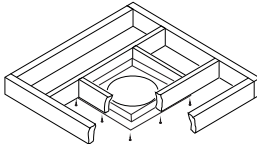

Figure 20 - Installing Firestop
1. Cut a 10" square hole in the ceiling using the locating hole as a center point. The opening should be framed to 10" x 10" inside dimensions, as shown in Figure 9 on page 9 using framing lumber the same size as the ceiling joists. If the area above the ceiling is an insulated ceiling or attic space, nail firestop from the top side. This prevents loose insulation from falling into the required clearance space. If the area above the ceiling is a living space, install firestop below the framed hole. The firestop should be installed with no less than three nails per side (see Figure 20, page 15).